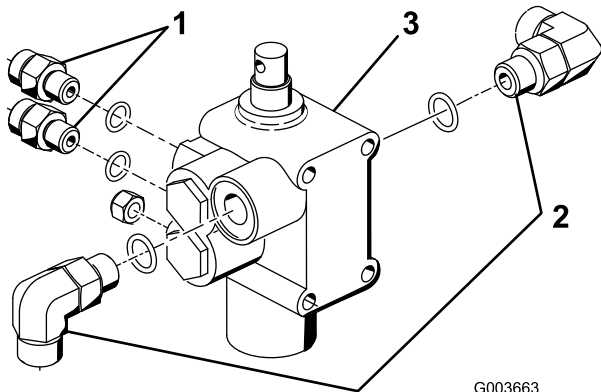

Figure 7
1. Thread both 90° fittings and the 2 straight hydraulic fittings into the new lift valve as shown in Figure 7.